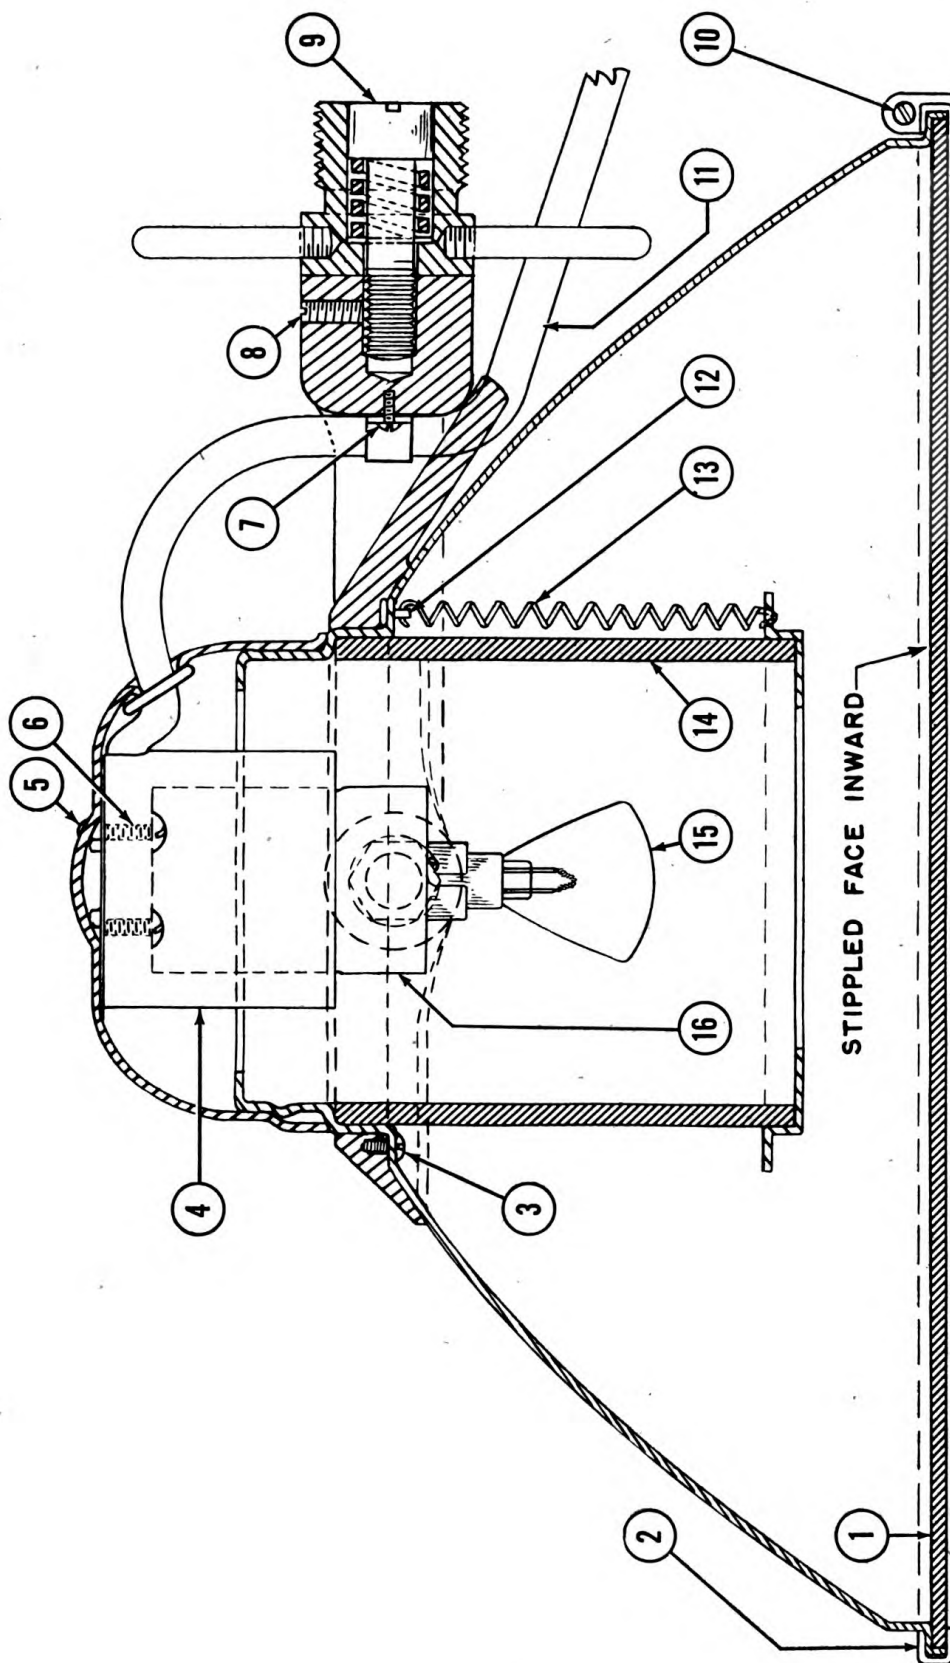

Figure 9. Lamp head assembly, sectionalized.
- a. Remove the retainer screw and retainer (fig. 9 (2) and (10)), and clean all foreign matter out of the retainer.
- c. Install new lens with stippled face inward. (See fig. 9 (1)).